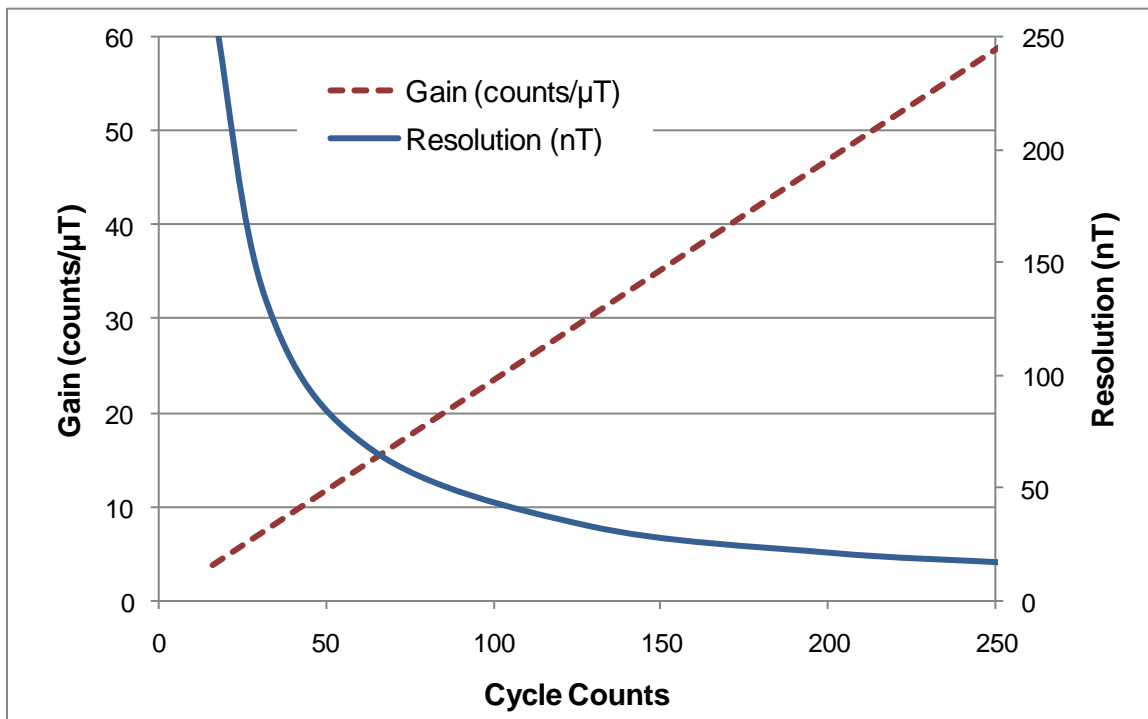
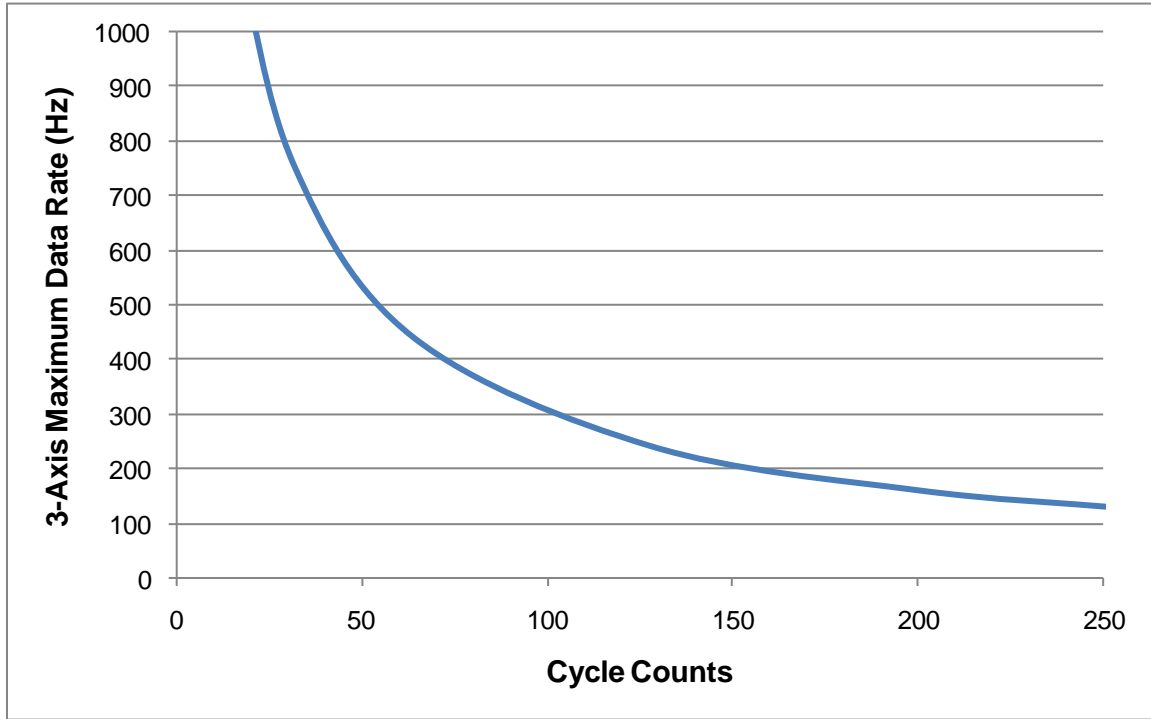

Figure 3-1: Gain & Resolution vs. Cycle Counts
Figure 3-2: 3-Axis Maximum Sample Rate vs. Cycle Counts
- 4) The maximum sample rate and the gain are inversely related, such that higher sample rates can be obtained by reducing the number of cycle counts, but this also results in reduced gain and resolution. Also see Figure 3-1 and Figure 3-2.
Prior to sending a command to take a sensor measurement, it is necessary to write values to the Cycle Count Registers. (The default value for the Cycle Count Registers is 512_D, but this was chosen for legacy reasons and is an inefficient value otherwise.) The Cycle Count Registers establish the number of sensor oscillation cycles that will be counted for each sensor in both the forward and reverse bias directions during a measurement sequence. Increasing the cycle count value increases measurement resolution, but system noise limits the useable resolution such that the maximum efficient cycle count value generally is around 200-300 cycle counts. Lowering the cycle count value reduces acquisition time, which increases maximum achievable sample rate or, with a fixed sample rate, decreases power consumption. See Figure 3-1, Figure 3-2, and Figure 3-3 to estimate the appropriate cycle count value for your application. Once the Cycle Count Registers are set, they do not need to be repopulated unless the user wants to change the values or the system is powered down (in which case the default values would populate the register fields when powered up again).